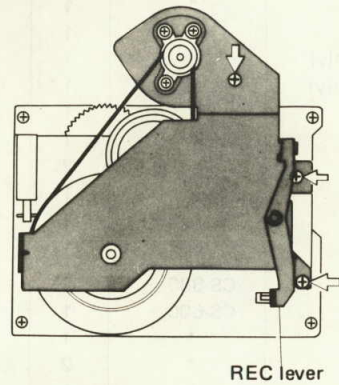

Fig. 12
- 1) Remove the 3 screws. (See figure 12)